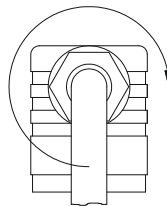

Fig. 11
- ✚ Press the core ⑧ into the cable socket ② until it locks into place.
- ✚ Put the central screw ⑥ in the cable socket ② and tighten the screwed cable gland ⑤ M16x1,5 (⇒ Fig. 11).